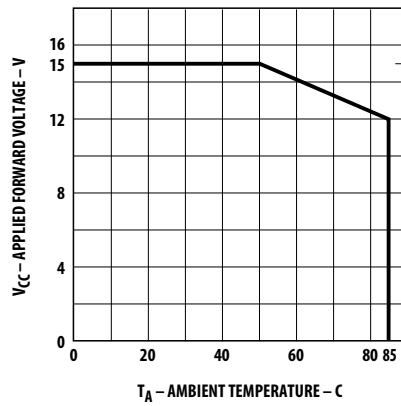

Figure 4. Maximum allowed applied forward voltage vs. ambient temperature $R\theta_{JA} = 175^{\circ}\text{C}/\text{W}$. 12 volt devices.
3. Derate from $T_A = 50^\circ\text{C}$ at $0.086 \text{ V}/^\circ\text{C}$, see Figure 4.